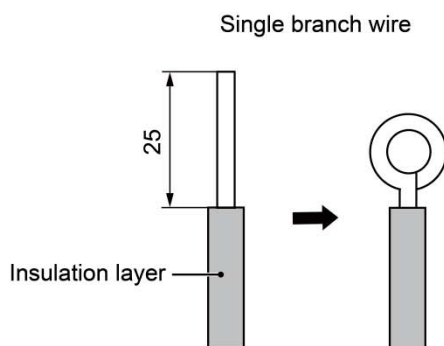

Fig.5.1.1
- (1) Connection of single branch wire (as shown in Fig.5.1.1)